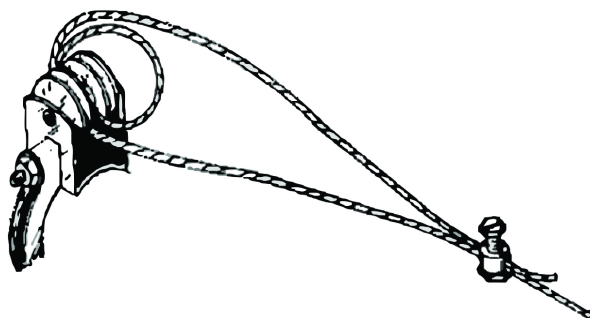

Figure 44. Anti-Roost Cable at the Hopper
2. Start at the hopper end of the line and form a loop around the anti-roost bracket. For best results, make a double loop around the anti-roost insulator in the center groove of the insulator and fasten with a 1/16" cable clamp as shown in **Figure 44.**